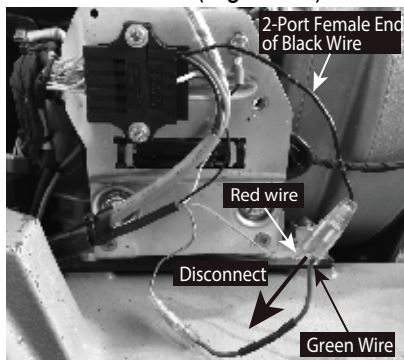

Figure 37. Existing Wiring Connections
3. Disconnect the red and green wires from the 2-Port female end of black wire (Figure 37).